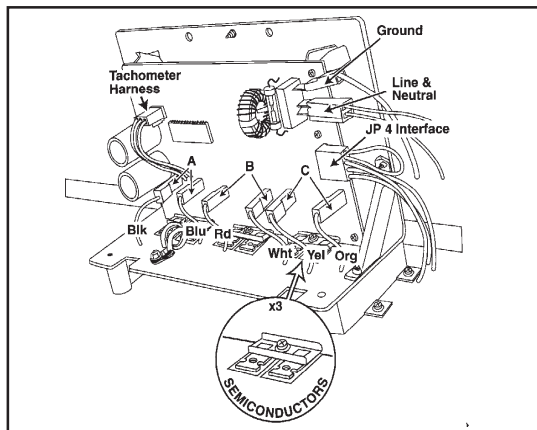

Figure 2-6
Refer to section titled **Motor Control** for board identification of A, B and C terminal/harnesses (**Figure 2-6**). Also, see the wiring schematic for harness identification.
- A. Check the 10-amp fuse located on the control board, either visually or with an ohm meter. If bad, completely replace motor control/wire harness assembly (**Figure 2-6**).
- B. If the fuse is functioning, visually check the six semiconductors on the heat sink for any damage. If damaged, replace motor control/wire harness assembly complete and check motor windings for damage (**See Drive Motor**). Replace motor if necessary (**Figure 2-6**).
To gain access to the motor control board terminals (*Figure 2-6*):
6. Reconnect the ground wire, line 1 and neutral wires. Leave the JP4 connector off the board (*Figure 2-6*).